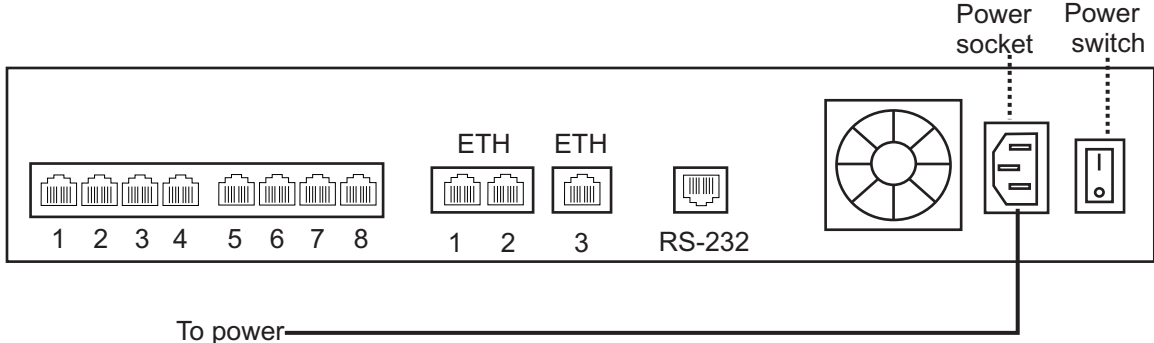

Figure 2.6 AC Power Connection
The TMG800 is furnished with one AC power connector (figure 2.6 on page 13).
1. Connect an AC power cable between the AC connector of the Tmedia unit and an AC supply. See figure 2.6 on page 13.